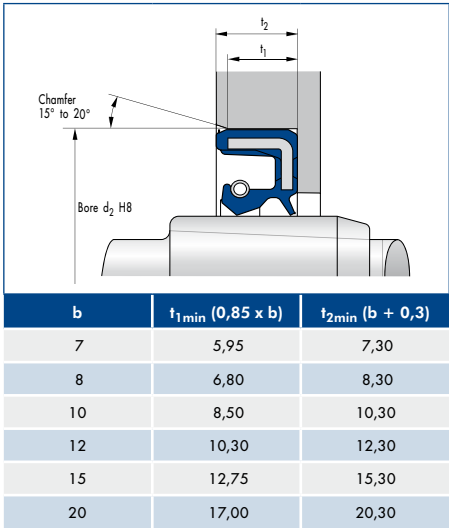

Fig. 35 Depth and chamfer on the locating bore
- Recommended value: Angle 15° ... 20° (→ Fig. 35)